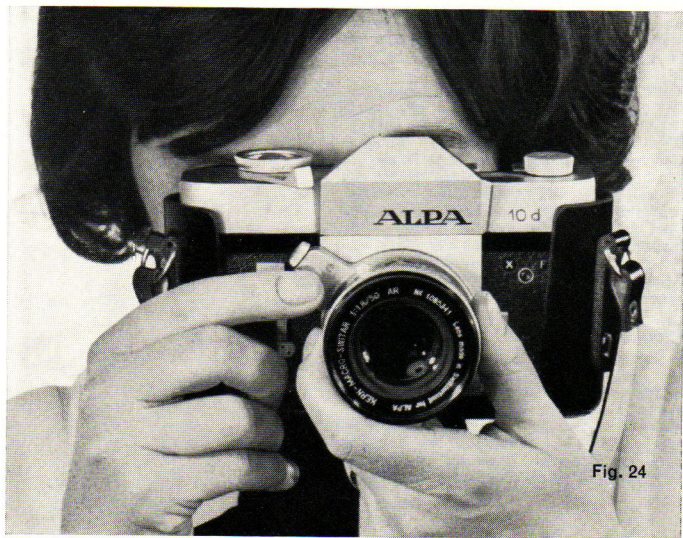

Fig. 24
a) Correct Aperture for given Shutter Speed (Fig. 24)
Fig. 24 shows the method of holding the ALPA with preselected shutter speed and turning the diaphragm to center the needle.